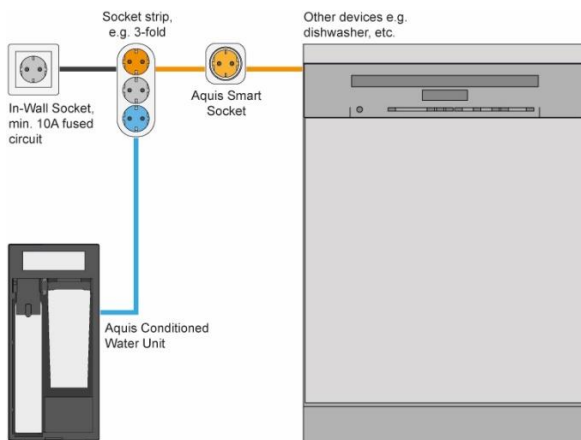

Figure 7: Connection with Smart Socket
- **Connections:** For the installation of the NOBILI CCU / CWU system, a mains water connection and a GFCI-protected separate power circuit with a suitable mains connection fused by at least 10 A and a permanent voltage supply of 230 VAC / 50 Hz are necessary. Angle valves must already be installed. If no separate power connection is available and other devices e.g. a dish washer is connected to the same power circuit, it is recommended to use a power meter from NOBILI ("Smart Socket") to protect the power circuit from excessive load (see Figure 7). Use only the supplied power cable directly connected on the NOBILI CCU / CWU system. A damaged power cable must be replaced with an identical one by NOBILI or by qualified personnel trained by NOBILI. Always use the hose set delivered with the device. The current one, available in the domestic installation, cannot be re-used.